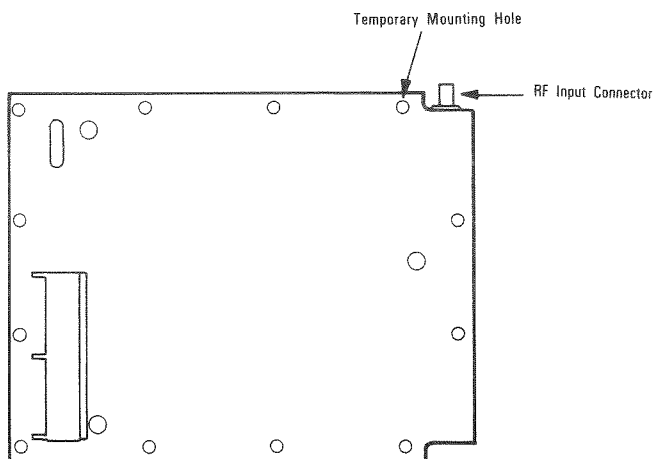

Figure 4-7. Marker Section, Top View
3. Place a Marker Section fastening screw in Hole A to hold the RF and Processor PC boards together (Figure 4-7).